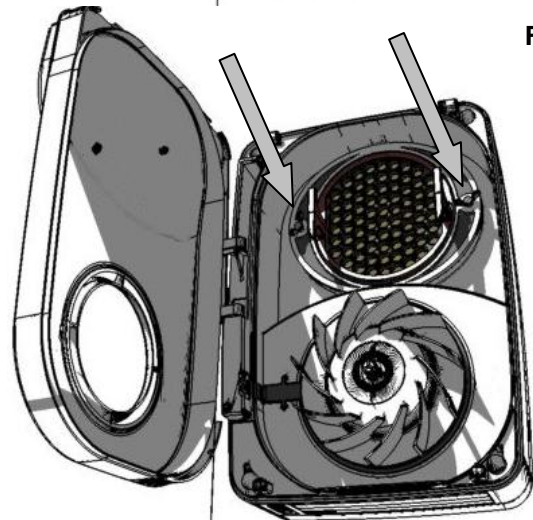

Fig.12
10) Fit Heat Exchanger Retaining Clamp with the screws provided Fig 12.